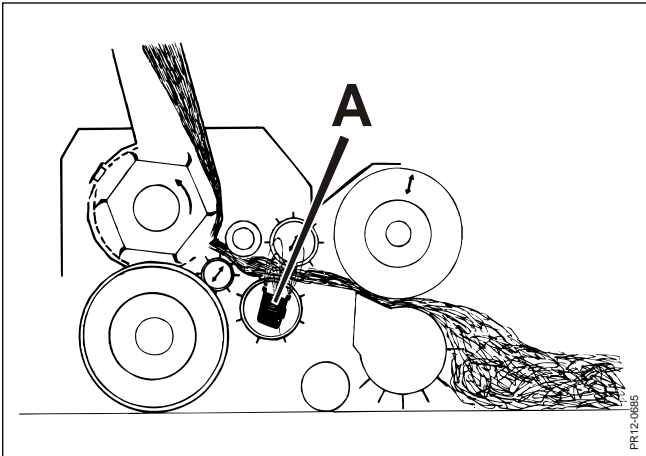

Fig. 5-1
**Fig. 5-1** The machine is equipped with a magnet tub **A** (a sensor) mounted in the lower front feed roller and its function is to detect (register) ferrous metal (metal containing iron).